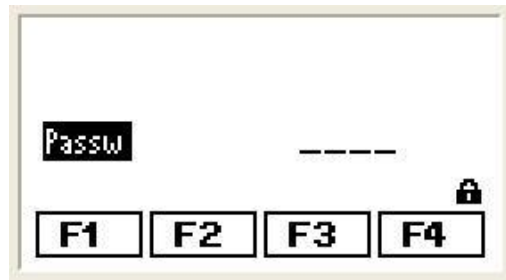

Fig.20.- Password request
- The screen shown on Fig. 20 will always be displayed when you wish to change the setup and it will ask for the password. Enter the **F1 F3 F2 F4** key sequence to activate the programming option. The unit will disconnect any connected capacitor steps and then display the setup screen. The right lock-shaped icon indicates whether the unit is locked or not for the edition of adjustable parameters.